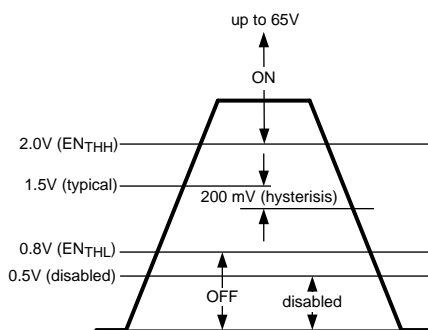

Figure 25. Enable Function Threshold Levels
The LM5060 Enable pin (EN) allows for remote On/Off control. The Enable pin on/off thresholds are CMOS compatible. The external N-Channel MOSFET can be remotely switched Off by forcing the EN pin below the lower input threshold, EN_{THL} (800 mV). The external N-Channel MOSFET can be remotely switched On by forcing the EN pin above the upper input threshold, EN_{THH} (2.00V). Figure 25 shows the threshold levels of the Enable pin.